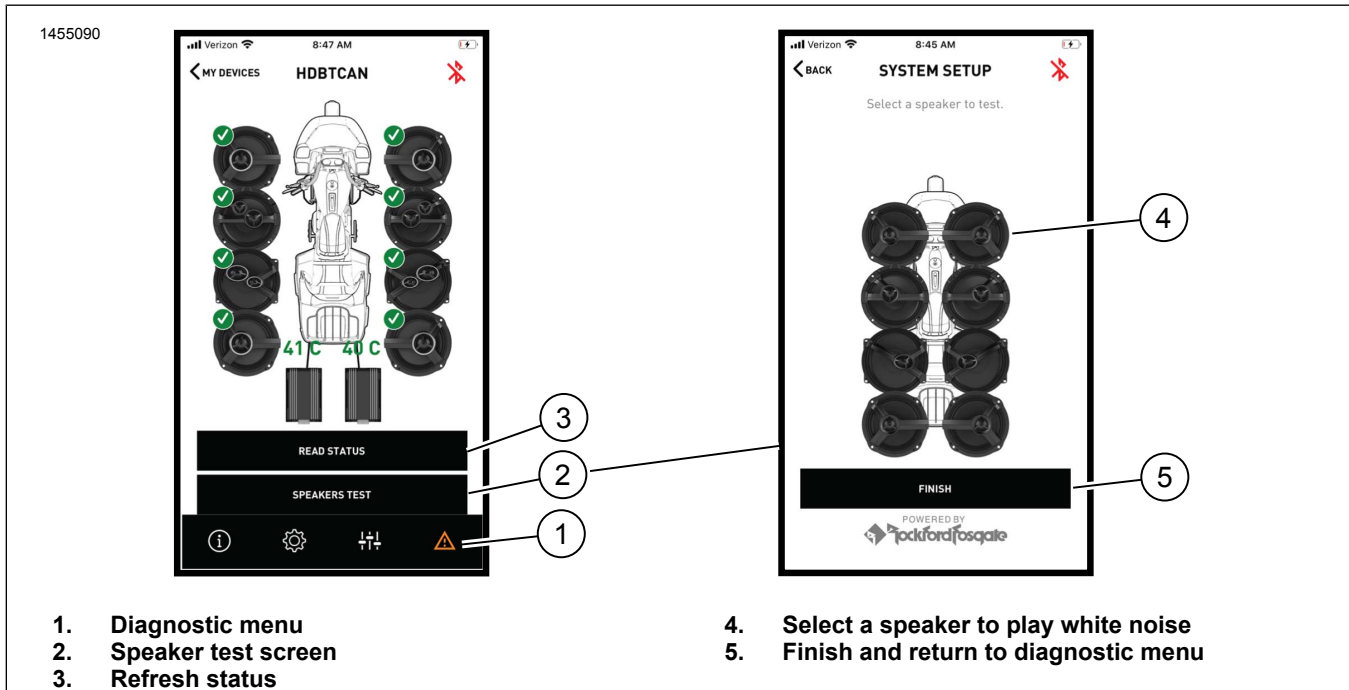

Figure 24. Diagnostic Menu
5. See Figure 24. Diagnostic menu screen.
- a. Diagnostic menu icon (1) displays sound system status.
- b. Open the speaker testing screen (2).
- c. Refreshes speaker and amplifier status (3) after component repair.
- d. Select speaker for white noise (4) test and functionality.
- e. Return to diagnostic menu screen (5).